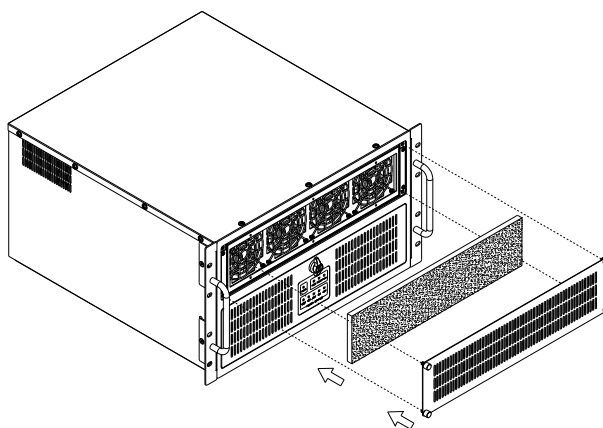
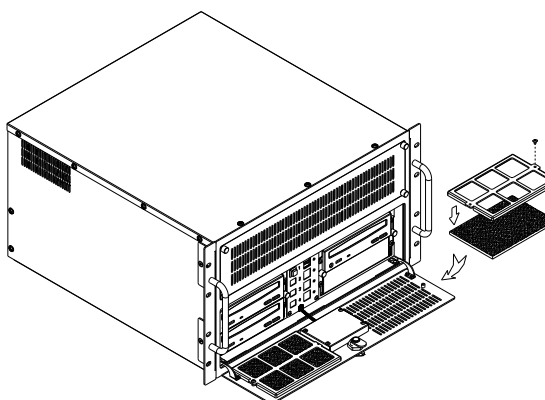

Figure 3.3 Replacing the front upper cover filter
Figure 3.4 Replacing the front door filter
The filter blocks dust or particles in the work environment from entering the chassis and extends the system life. Ideally, the filters should be replaced periodically. One filter is located behind the front upper cover and one filter is located on the lower left and lower right sides of the front door. To replace a filter, please refer to Figure 3.3 and Figure 3.4 and follow the instructions provided below.
1. Loosen the four thumb screws located on the front upper cover and then gently pull the cover forward (see Figure 3.3).
2. Loosen the screw on the filter cover (see Figure 3.4).